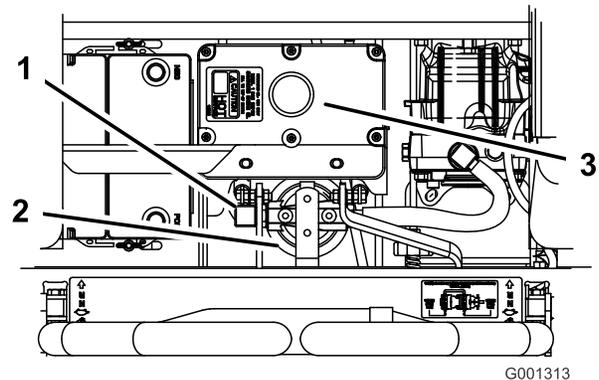

Figure 97
- Remove the right hydraulic line that comes into the adapter (Figure 97).
- Install the right hydraulic line to the adapter (Figure 97).
- Apply a thin coat to the rubber gasket on the replacement filter (Figure 97).
- Fill the hydraulic tank with hydraulic fluid until the fluid overflows the filter and then turn the fluid filter clockwise until the rubber gasket contacts the filter adapter, then tighten the filter an additional 1/2 turn (Figure 97).